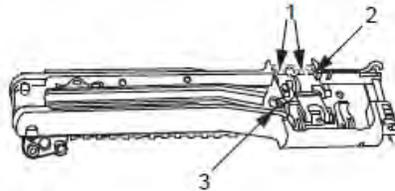

Figure 16. Springs and Cartridge Retaining Pawls .
2. Check for missing, weak, or improperly installed springs under cartridge retaining pawls (Figure 16, Item 1). Replace as needed.
3. Check for excessive wear (rounded), chipped, broken, or bent cartridge retaining pawls (Figure 16, Item 1). If damaged, replace (WP 0011).